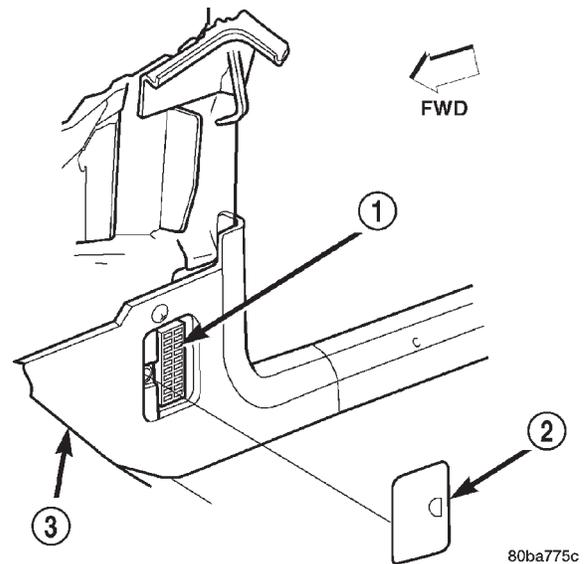

Fig. 3 Junction Block Location
An electrical Junction Block (JB) is concealed behind the right cowl side inner trim panel in the passenger compartment of the vehicle (Fig. 3). The JB combines the functions previously provided by a separate fuseblock module and relay center. The JB serves to simplify and centralize numerous electrical components, as well as to distribute electrical current to many of the accessory systems in the vehicle. It also eliminates the need for numerous splice connections and serves in place of a bulkhead connector between many of the engine compartment, instrument panel, and body wire harnesses. The JB houses up to twenty-seven blade-type fuses (three standard-type and twenty-four mini-type), up to three blade-type automatic resetting circuit breakers, and four International Standards Organization (ISO) relays (three standard-type and one micro-type).